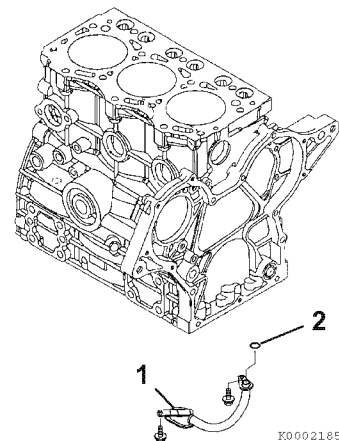

Figure 6-46
- Remove the oil pickup tube (**Figure 6-46, (1)**) and O-ring (**Figure 6-46, (2)**).